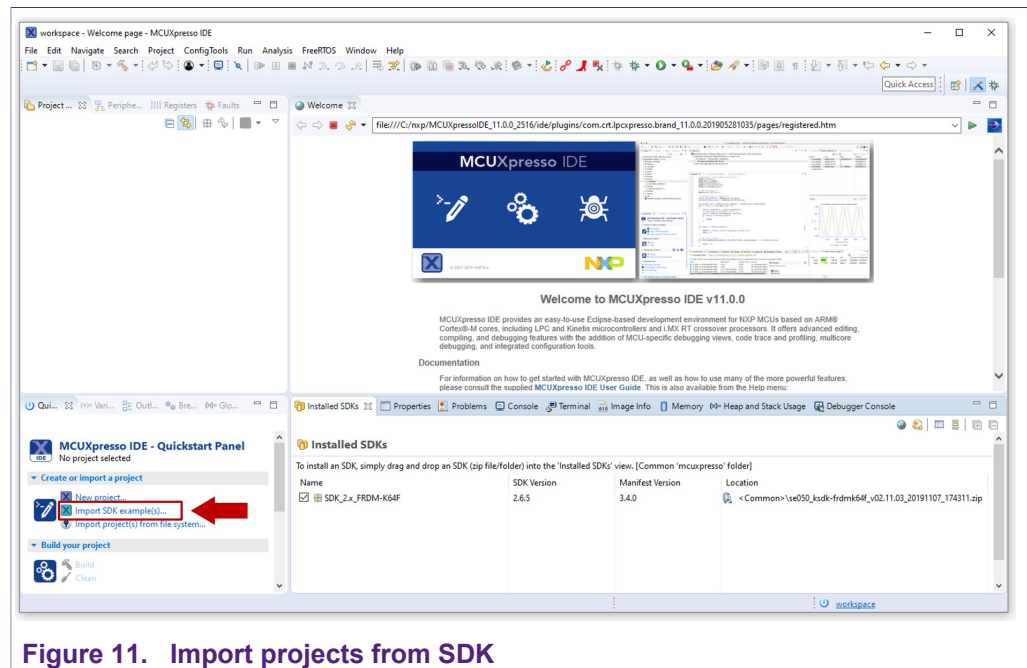

Figure 11. Import projects from SDK
1. Click *Import SDK examples* from file system in the MCUXpresso IDE quick start panel as shown in Figure 11